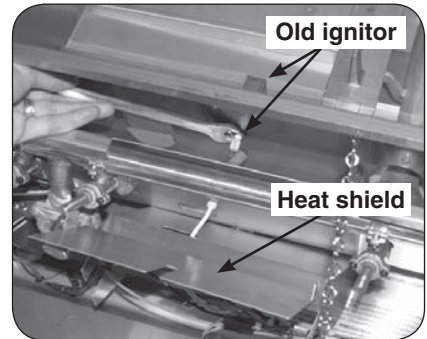
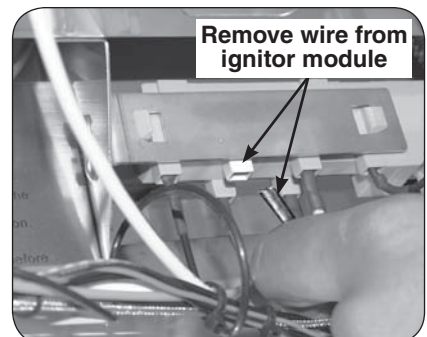

Fig. 2-4 Remove heat shield and old ignitor
Fig. 2-5 Remove old ignitor wire
- Lift the heat shield up and inward slightly to clear the diagonal slots hooked over the oven fire wall then pull away from the manifold (see Fig. 2-4).
- Remove the existing ignitor wire by first sliding the rubber sleeve back off the ignitor, then pulling the wire to detach from the ignitor. Next remove the ignitor nut on the control panel side of the fire wall with a $\frac{9}{16}$ open-end wrench (see Fig. 2-4) and remove the ignitor box from inside the oven. Remove the rubber sleeve from the wire and pull the wire through the heat shield and the insulating tube in the manifold fire wall. Disconnect the other end of the ignitor wire from the ignitor module (see Fig. 2-5).
2. Attach the other end of the new ignitor wire (the insulated end) to any male connector on the back of the ignitor module (reference Fig. 2-5).